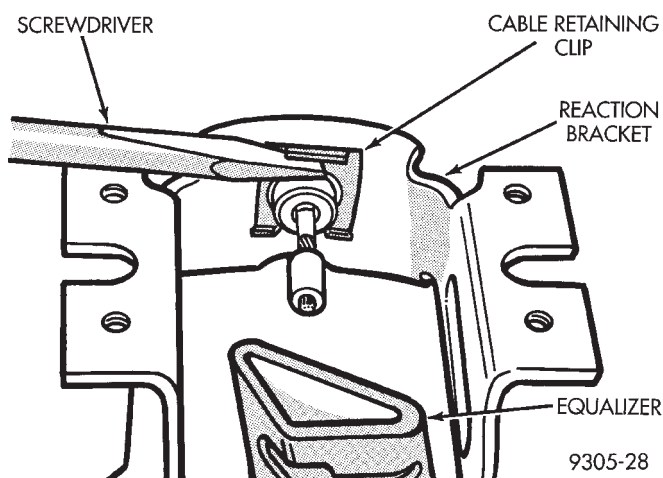

Fig. 15 Front Park Brake Cable Retaining Clip
(3) Remove the front park brake cable to reaction bracket retaining clip, by prying it off cable using a screwdriver (Fig. 15).